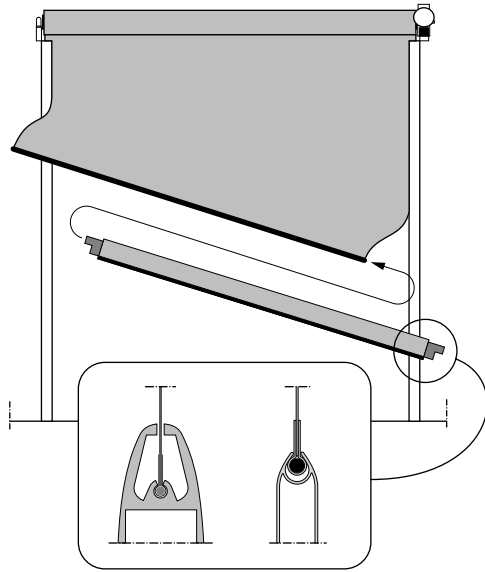

figure 2.3.2
- 4 slide the lower beam over the reception profile of the doorplate and divide it so that the distance between wall guide and lower beam is the same on both sides (fig. 2.3.2). Do not yet secure doorplate and lower beam!